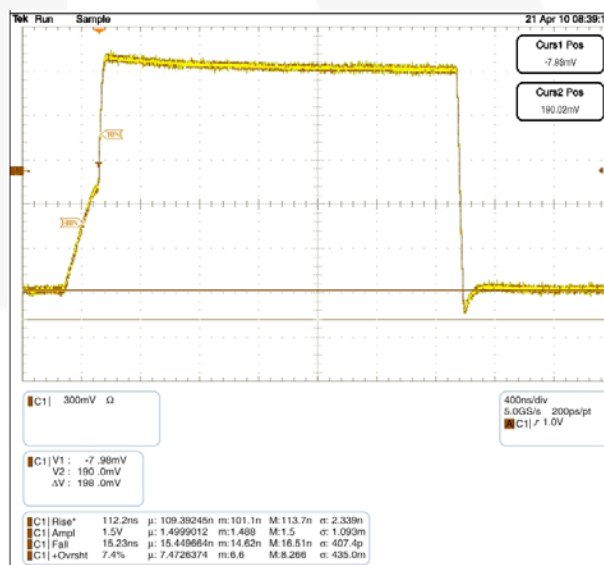

Figure 5. FXMA2102 Waveform C: 600 pF, RPU: 2.2 K
is a slave on the B port, the Npassgates act as a low resistive short between both ports until either of the port's VCC/2 thresholds are reached. After the RC time constant has reached the VCC/2 threshold of either port, the port's edge detector triggers both dynamic drivers to drive their respective ports in the LOW-to-HIGH (LH) direction, accelerating the rising edge. The resulting rise time resembles the scope shot in Figure 5. Effectively, two distinct slew rates appear in rise time. The first slew rate (slower) is the RC time constant of the bus. The second slew rate (much faster) is the dynamic driver accelerating the edge.
The FXMA2102 dynamic drivers have enough current sourcing capability to drive a 400 pF capacitive bus. This is beneficial for instances when an I2C buffer / repeater is required. The I2C specification stipulates a maximum bus capacitance of 400 pF. If an I2C segment exceeds 400 pF, an I2C buffer / repeater is required to split the segment into two segments, each of which is less than 400 pF. Figure 5 is a scope shot of an FXMA2102 driving a lumped load of 600 pF. Notice the (30% - 70%) rise time is only 112 ns ( $R_{PU} = 2.2\text{ K}$ ). This is well below the maximum edge rate of 300 ns. Not only does the FXMA2102 drive 400 pF, but it also provides excellent headroom below the I2C specification maximum edge rate of 300 ns.